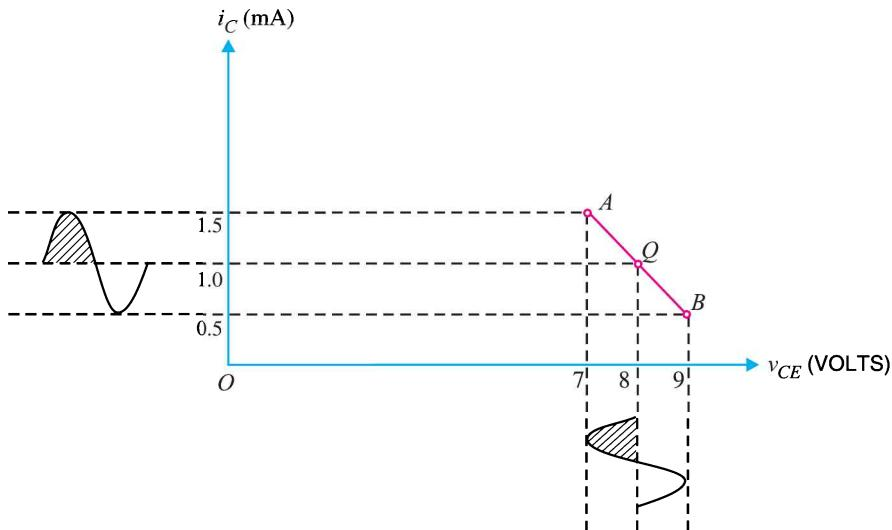

Fig. 10.18
**Solution.** Fig. 10.18 shows the whole process. When no signal is applied,  $v_{CE} = 8$  V and  $i_C = 1\text{mA}$ . This is represented by the operating point  $Q$  on the a.c. load line. During the positive half-cycle of a.c. signal,  $i_C$  swings from 1 mA to 1.5 mA and  $v_{CE}$  swings from 8 V to 7 V. This is represented by point  $A$  on the a.c. load line. During the negative half-cycle of the signal,  $i_C$  swings from 1 mA to 0.5 mA and  $v_{CE}$  swings from 8 V to 9 V. This is represented by the point  $B$  on the a.c. load line.